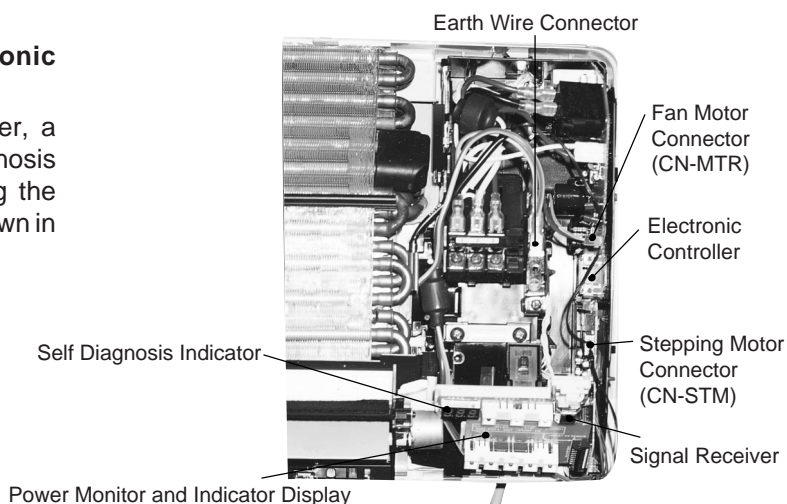

Fig. 1
1. The Electronic Controller, a signal Receiver, a power monitor, as indicator and a self diagnosis indicator can be seen by removing the Front Grille and Control Board Cover, as shown in the Fig. 1.
1. Remove the connector CN-MTR (GREEN) of Fan Motor and connector CN-STM (WHITE) of stepping motor from the electronic controller. Release the earth wire (YELLOW-GREEN) from the control board and sensors from its holders. (Refer Fig. 1)